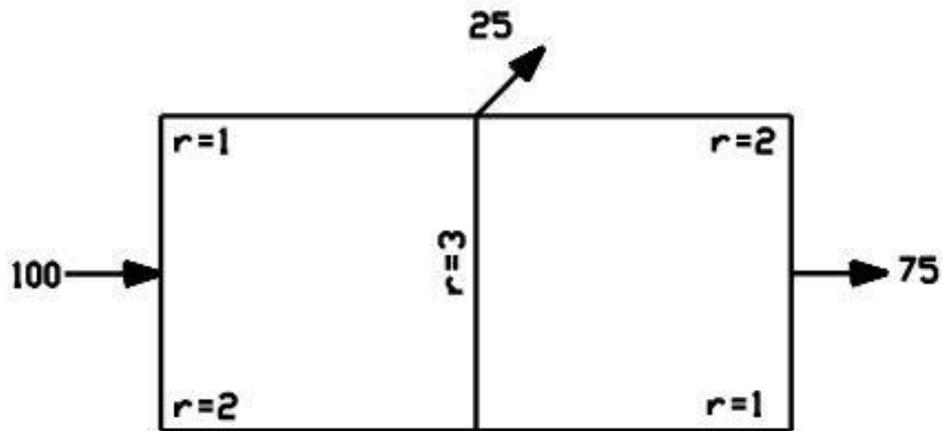

Fig.4
5. Calculate the flow rate through each pipe of the network shown in Fig.4.